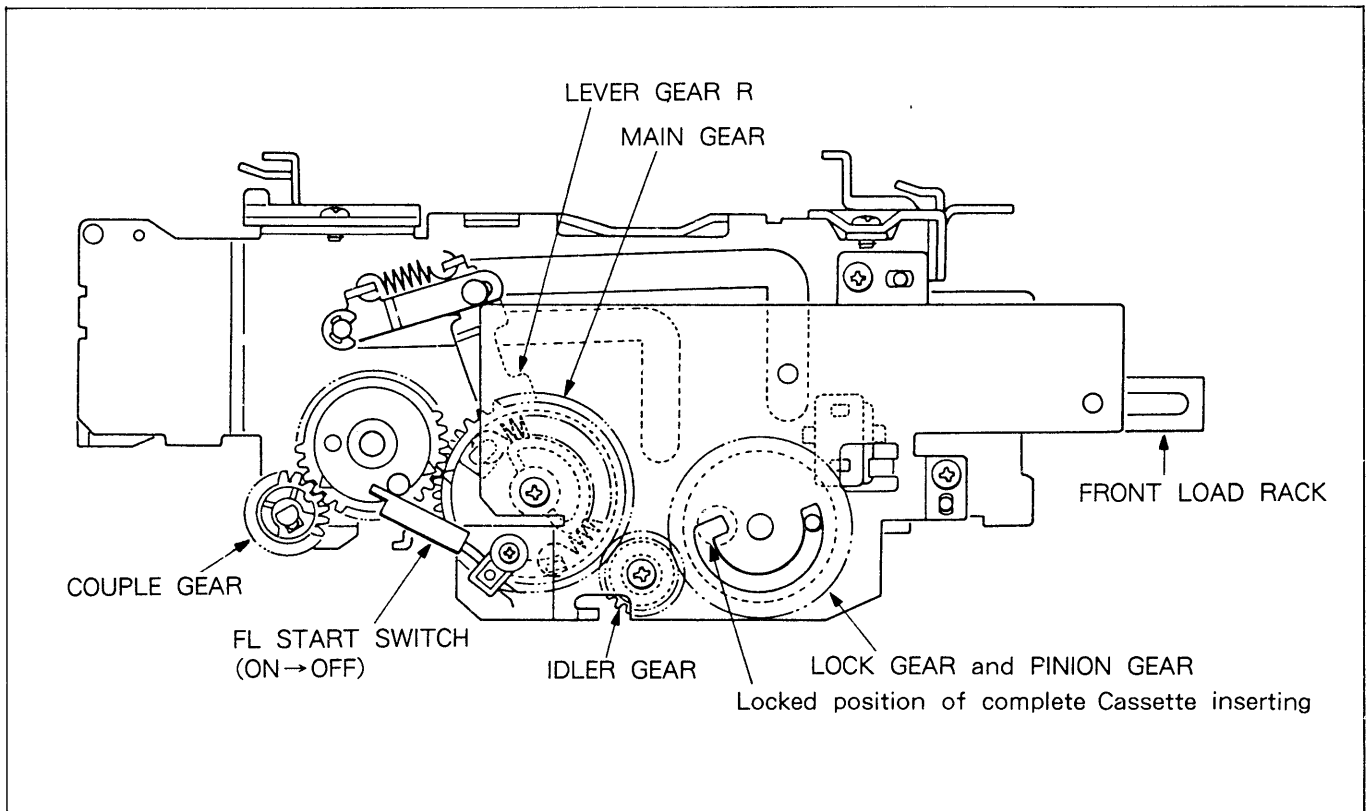

Fig. 2-15 CASSETTE HOLDER MECHANISM (CASSETTE INSERTING OPERATION)
When inserting a cassette from the cassette ejected state of Fig. 2-14 ⑥, the FL START SWITCH shown in Fig. 2-15 is turned OFF, to cause the loading motor to be rotated in the direction of insetting. As a result, the FRONT LOAD RACK is drawn in, and the front loading is made up to the cassette tape completion point. So, it is locked in the grooves shown in Fig. 2-15 to complete cassette inserting. At that time, the FRONT HELICAL GEAR is positioned at ③ of Fig. 2-14, and is released from the front loading mechanism, therefore, the tape loading operation is continuously performed.